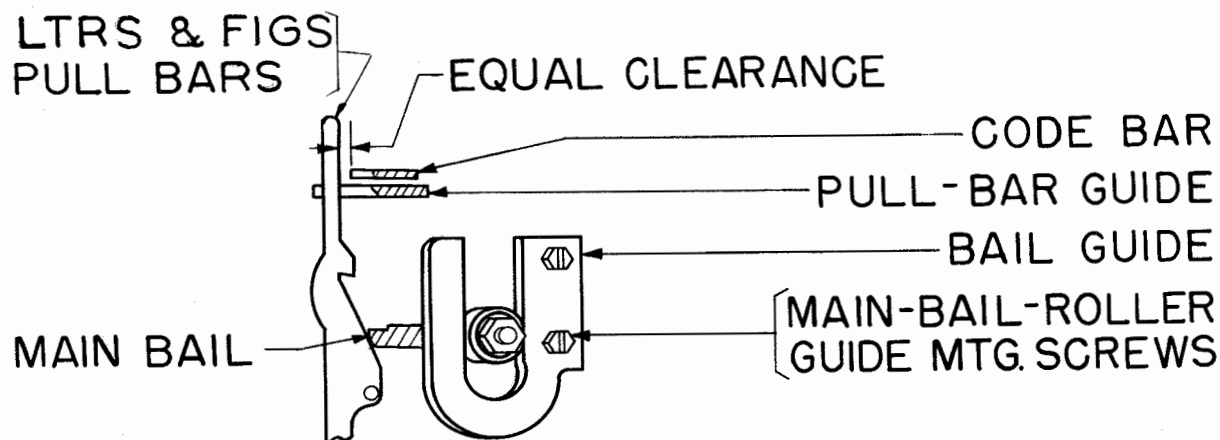

Figure 12
- (b) Pullbar Codebar Clearance: With the main bail in its lowest position (Figure 12) the clearance between the LTRS pullbar and the